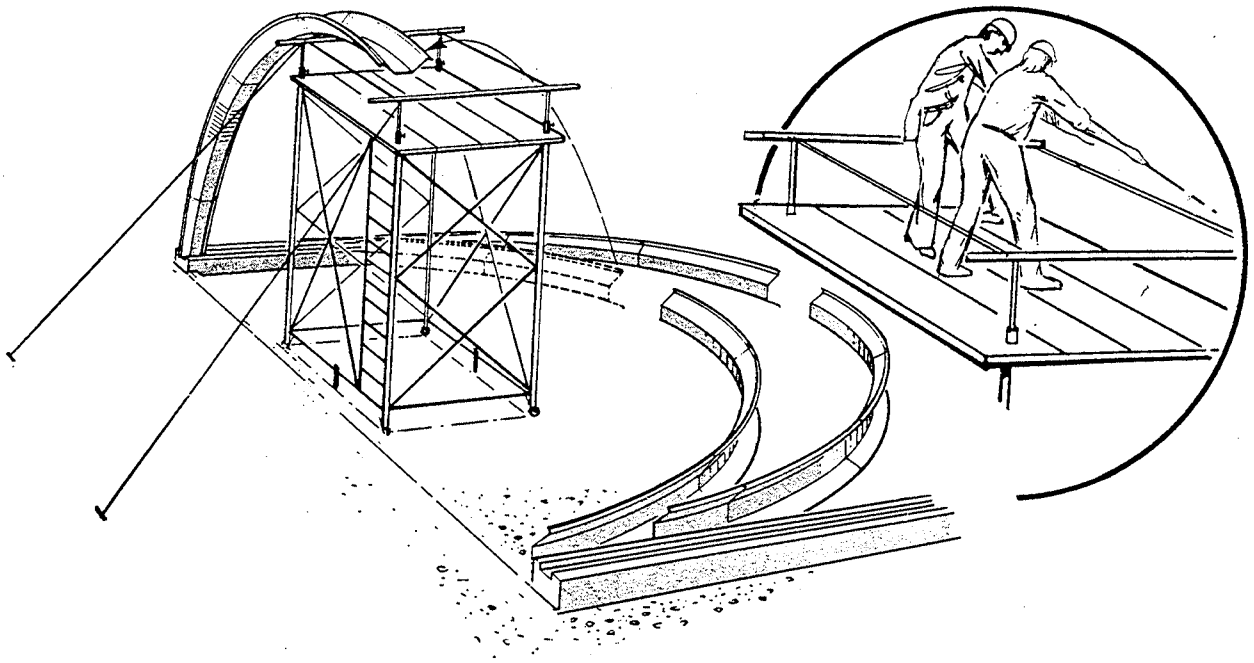

Fig.27
5. Support the top end on the scaffold as shown in fig.27, and secure it temporarily by means of ropes or otherwise.